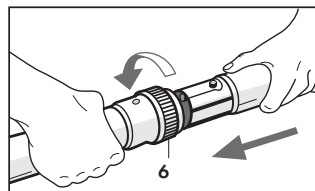

Fig. 19
To connect hoses, tubes and accessories to each other, simply install the male end of a component to the female end of the other and rotate the locking ring (6) in the direction illustrated. (Fig. 19).